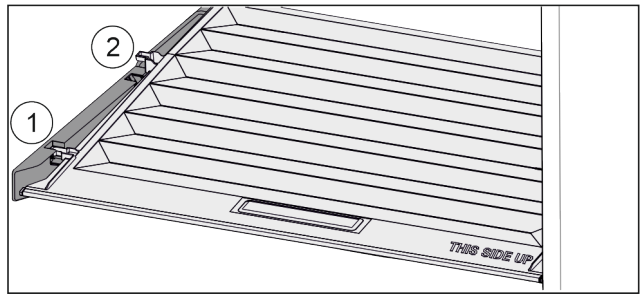

Fig. 102
- ▶ Pull the lid up at the front to the opening in the retaining parts Fig. 102 (1).
- ▶ Lift from the back and pull it up and out Fig. 102 (2).